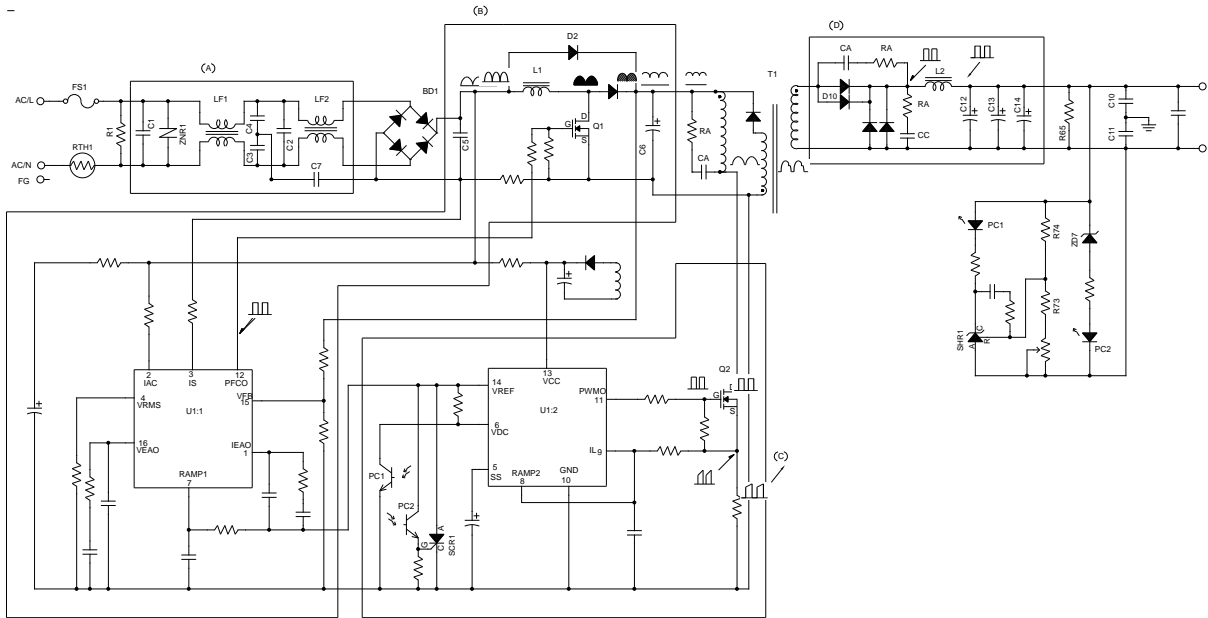

Figure 1.13 PFC+PWM Forward circuit
Figure 1.13 shows a typical Forward circuit with PFC and PWM. The functionality of each block is as follows:
- (1) Inrush Current Limiting - RTH1 (thermistor) suppresses the inrush current during cold start. Thermistor is a resistor whose resistance changes in indirect proportion to temperature, which is why it is called a NTC (Negative Temperature Coefficient) Thermistor. At cold start, the high resistance suppresses inrush current; after starting up for a while, the resistance decreases to reduce power consumption in normal operation. S.P.S. of middle/high power rating uses a circuit comprising TRIAC and relay to have lower conduction loss. Please refer to Section 2.3 for detailed information.
- (2) Anti-Lightning Surge – ZNR1 (transient/surge absorber) is a resistive component. Part number 471, commonly used in our products, it possesses high resistance at normal condition. As the voltage across it increases, its conductivity also increases; the resistance decreases greatly when the voltage across it reaches 470VDC or 332VAC, and the conductive current is around 1mA. With that characteristic, the transient/surge absorber is able to bypass the abnormal surge voltage so as to effectively inhibit the surge voltage from entering the S.P.S.
- (3) EMI filter – As show in block (A) of figure 1.13 (excluding ZNR1, the surge absorber), this module of EMI filter is commonly used at the input side of our products to filter out noises interference. Basically, it consists of three types of components, which are X capacitor, Y capacitor, and common-mode choke. The functionality of each component in block (A) is as follows:
- (4) Input Rectification – BD1 (bridge rectifier) rectifies AC input voltage to DC level with 120Hz ripple voltage.
- (5) PFC (Boost) Circuit - Block (B) in figure 1.13 consists of Q1, D1, L1, and U1:1 (PFC controller) boosts the voltage to 380VDC. The main function of the block is for power factor correction, to approximate the waveform of input current to sine wave, and to reduce harmonic current to correspond to the demand of CE regulations. Either active or passive PFC circuits can be used. Passive PFC circuit uses a low-frequency transformer comprising a core made of silicon steel sheet to upgrade power factor figure from 0.5 to 0.7; active PFC circuit upgrades it to 0.95.
- (6) PWM Control at Primary Circuit – Block (C) consists of U1:2 (PWM controller) and Q2 (main power transistor) converts DC voltage from PFC circuit to high-frequency pulse train signal, so as the high-frequency transformer can increase/decrease it to get lower conversion of output voltage.
- (7) Isolation Transformer – Its (T1) main functions are isolation and decreasing voltage level. Temperature rise and the ability to meet withstand voltage rating of safety regulations are the main considerations when designing the transformer.
- (8) Output Rectification – Block (D), consisting of D10, L2, and C12~C14, rectifies and filters the high-frequency DC pulses to a steady DC level.
- (9) Feedback Control Loop – The loop, consisting of R74, PC1, etc., senses the divided output voltage to compare with the reference voltage of SHR1, and feedback the signal to PWM control IC (U1:2) through PC1 to regulate the duty cycle of PWM to achieve the purpose of output voltage control.
- (10) Over Voltage Protection Circuit – It consists of ZD7, PC2, etc. When the output voltage exceeds the specified value (ZD7), PC2 conducts to activate SCR1 to pull the reference voltage of PWM IC (U1:2) to ground to cease operation of PWM IC, so as to protect the S.P.S or users' system from damage.
(11) Snubber Circuit: RA and CA, located in primary side of T1 and secondary rectifiers (D10), are mainly to reduce the high-frequency spikes and oscillation coming from switching transitions of switches or rectifiers, such as Q2 and D10. It also improves EMI performance and decreases withstand voltage on components.